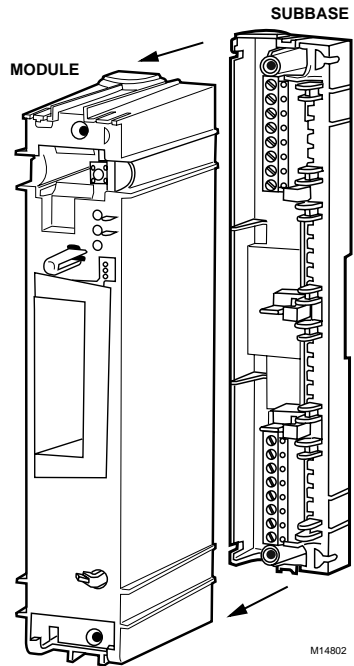

Fig. 3. Removing subbase from module housing.
4. Remove the subbase by slowly pulling the subbase from the module housing. See Fig. 3.